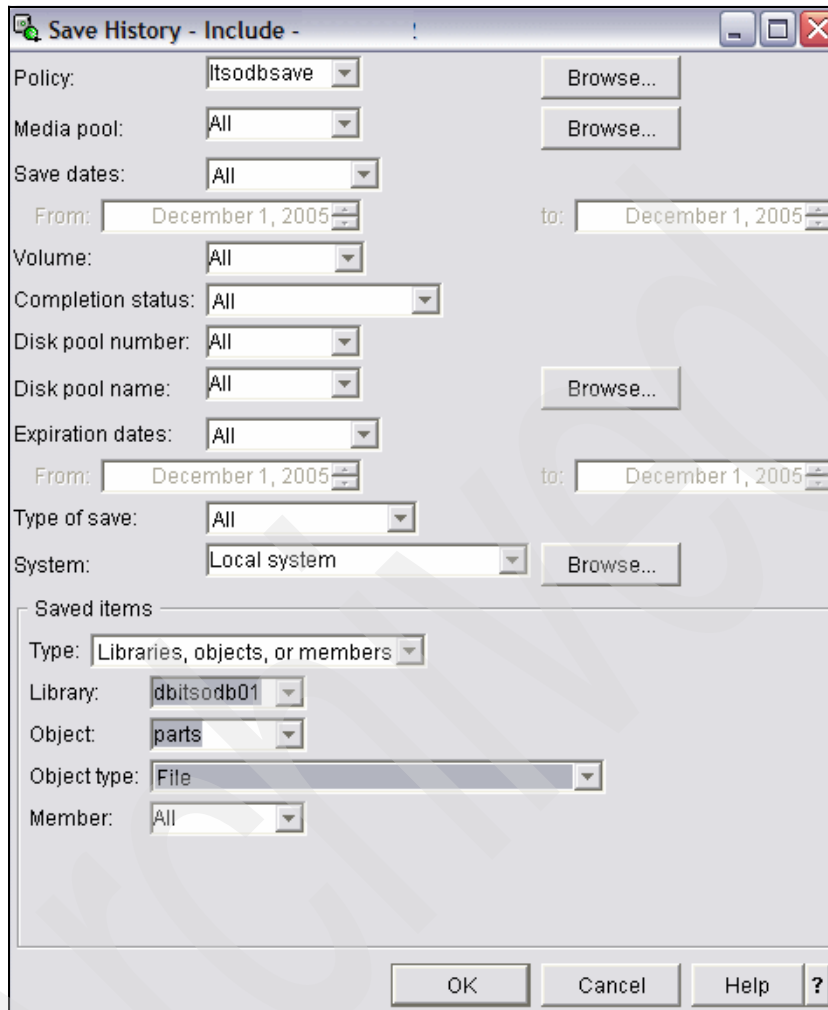

Figure 7-64 BRMS restore, what to restore
3. In the window that appears, shown in Figure 7-64 on page 392, fill in details about what to restore, select between dates and other selection criteria, if any. Use **Browse** if required.
Since a single object named “parts” is being restored, input the following values, and click **OK**, as shown in Figure 7-64 on page 392.